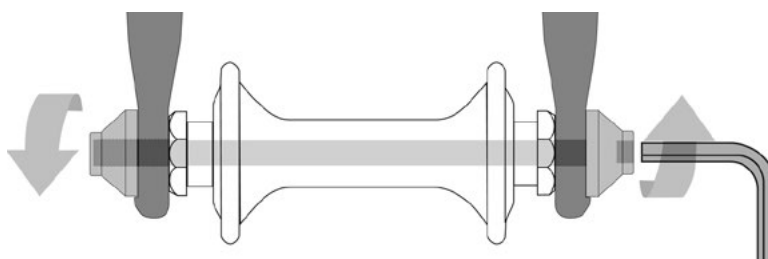

fig. 18
2. A hollow axle with a shaft (“skewer”) running through it which has a nut on one end and a fitting for a hex key, lock lever or other tightening device on the other (fig. 18).